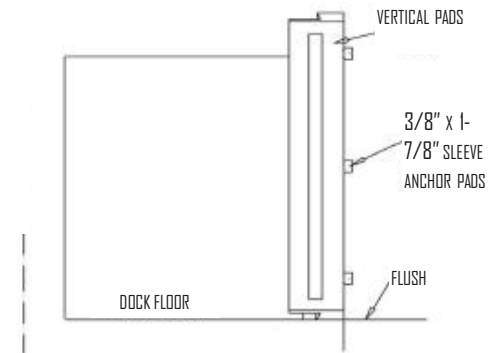

FIG 4
- Make sure frames are plumb and square from bottom to top (Fig. 4, next page).
- Taking the prepared pads, level the bottom of pads with dock floor or at the top of dock bumpers on low docks (Fig. 4).